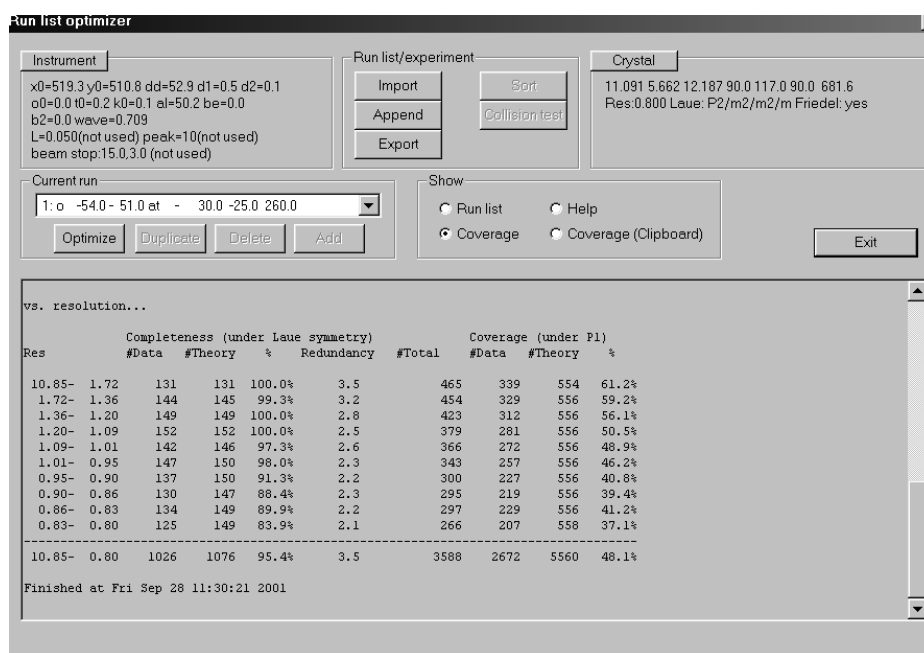

Figure 6.5.64 Screenshot of Run List Optimiser: Coverage Statistics
7. Follow the procedure for data reduction as described in section 6.5.8. On reaching STEP 5: Special corrections, click on the button '**Special corrections properties**'. A window like the one in figure 6.5.64 should open. Click on the tab marked '**Peak finding**'. Here you will be offered the choice of applying various corrections.